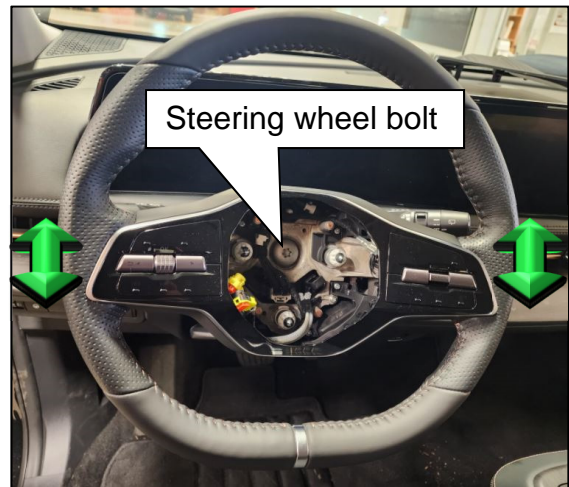

Figure 1
- Hold the steering wheel at the 3 o'clock and 9 o'clock position (Figure 1).